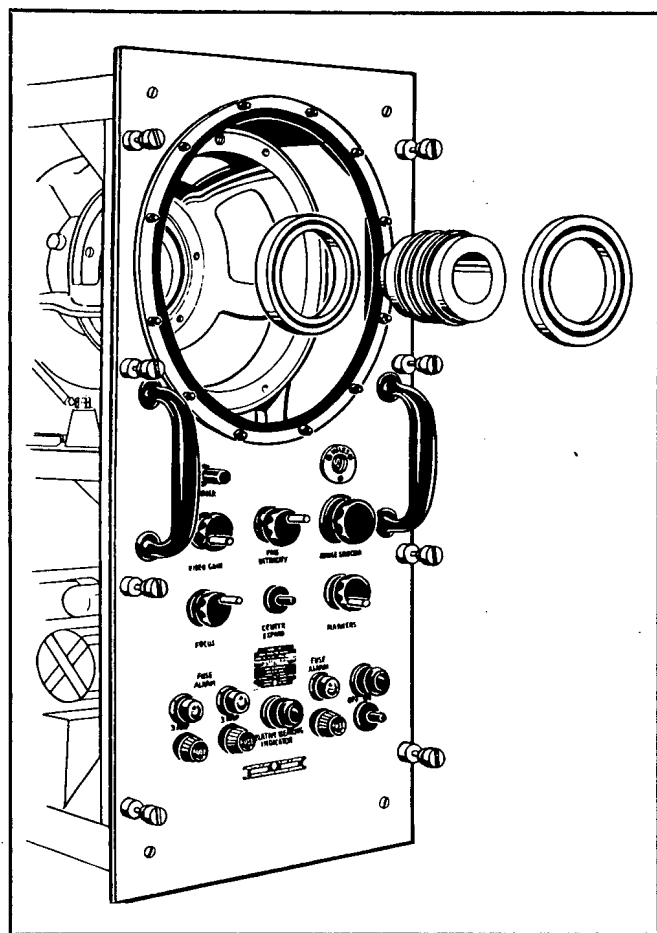

Figure 7-51. Removing Yoke Coil and Bearings
the snap ring out of the groove. Slide the bearing off the coil. The rear yoke coil bearing may be removed after the yoke coil is taken out. Place the fingers inside of the bearing and slide it out of the casting. Be careful not to pull unevenly, as this will bind the bearing in the housing. The removal of the yoke coil and its bearings is shown in Fig. 7-51. The coil and bearings are replaced by reversing the above procedure.
30. Slide the yoke toward the large end of the front casting, and remove. This will also remove the front yoke bearing and the dust cover. See Fig. 7-51.
31. Slide out the rear yoke bearing. See Fig. 7-51.